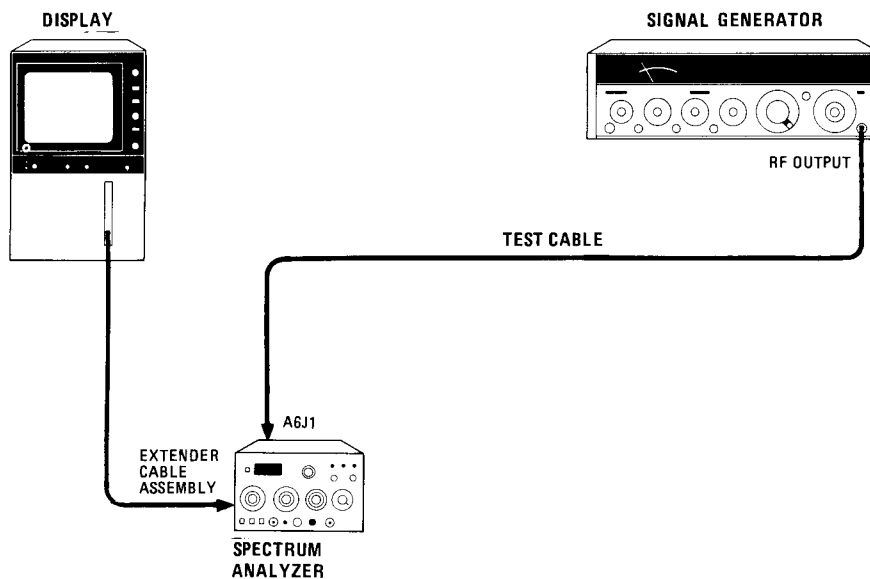

Figure 4-11. Resolution Bandwidth Selectivity Test Setup, 1 kHz to 30 kHz
- 2. Connect equipment as shown in Figure 4-11.